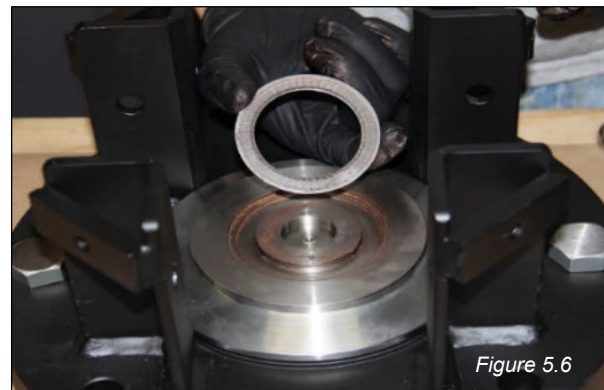

Figure 5.6
- a. Insert the thin thrust washer onto the seal disc (*Figure 5.6*).